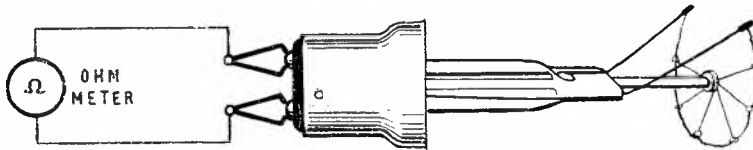

FIG. 2.
STEP 1. Connect the circuit as shown in Fig. 2.